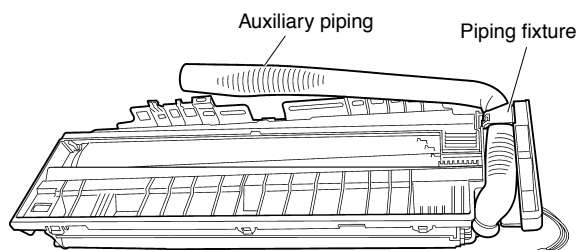
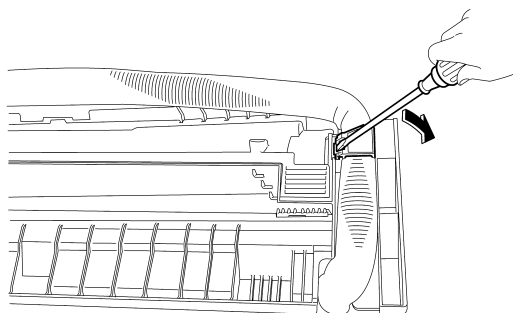
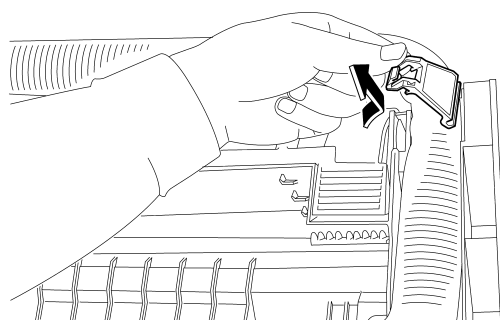

Fig. 39
Fig. 40
Fig. 41
- (2) Release the hook of the piping fixture on the back of the unit. (Fig.39, Fig.40 and Fig.41)